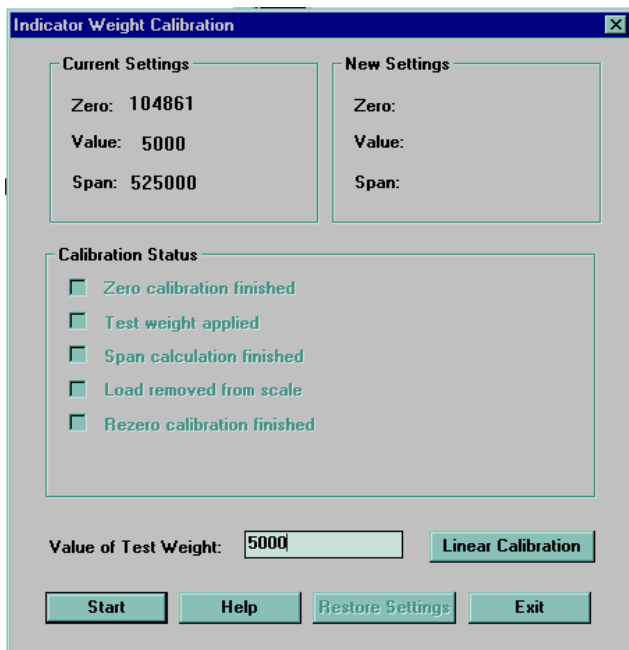

Figure 4-3. Revolution Scaleware Calibration Display
4. Revolution Scaleware uploads calibration data from the indicator then presents the information in a display like that shown in Figure 4-3.